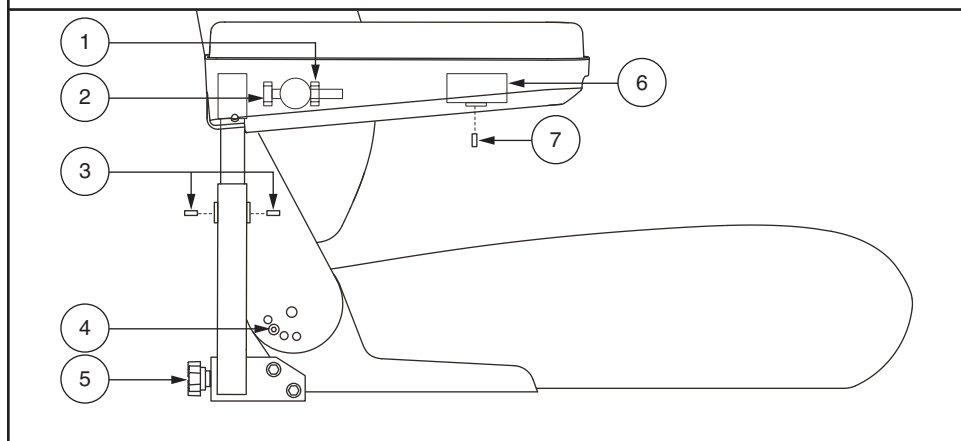

Figure 13. Seatback/Armrest Adjustment
1. Remove the adjusting screws from each seat hinge. **See figure 13.**
1. Locate the two armrest knobs on each side of the armrest receiver bracket. **See figure 13.**
1. Lift the armrest straight up so that it is perpendicular to the floor. **See figure 13.**
1. Loosen the two setscrews located on the armrest receiver. **See figure 13.**
2. Loosen the setscrew on the controller bracket. **See figure 13.**